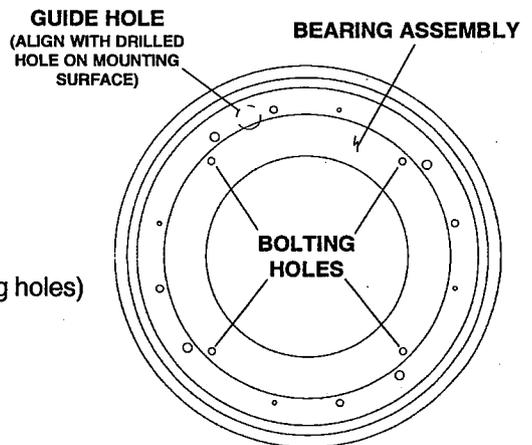

FIGURE 2
- Bolt down the bearing assembly using four bolts (10-24 unc or equivalent). (Please refer to Figure 2 for the location of the bolting holes)